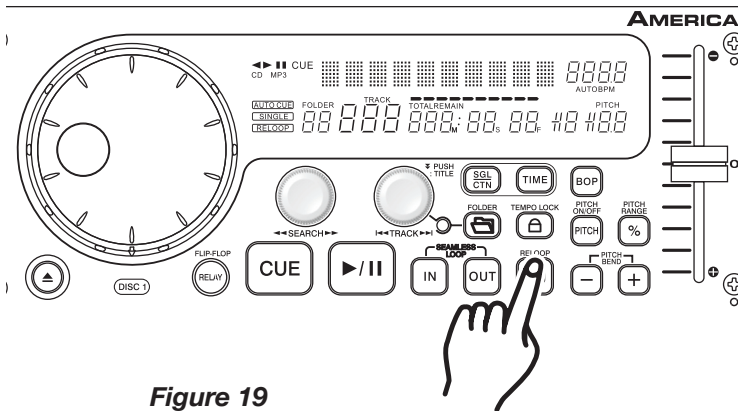

Figure 19
- 3) Press the **OUT BUTTON (16)** to set the ending point for your SEAMLESS LOOP (Figure 19). The **IN BUTTON (17)** and **OUT BUTTON (16)** L.E.D.s will immediately begin to flash rapidly, indicating the SEAMLESS LOOP mode has been activated.
REPLAY LOOP - The **RELOOP (15)** function allows you to return to your stored loop at any time. The **IN BUTTON (17)** and **OUT BUTTON (16)** L.E.D.s will indicate a loop is stored in memory, and may be played at any time. To replay the loop, press the **RELOOP BUTTON (15)**. The **IN BUTTON (17)** and **OUT BUTTON (16)** L.E.D.s will again begin to flash indicating SEAMLESS LOOP mode has been activated (Figure 19) and your stored loop will immediately begin to play.
Please Note: Only the end point of the loop may be edited. You may make your loop shorter or longer. Before you can edit your seamless loop you obviously must first have created a seamless loop to edit. If you haven't created a SEAMLESS LOOP, follow the instructions in step 9 to create a loop. If a SEAMLESS LOOP has already been created, press the **RELOOP BUTTON (15)** to activate your SEAMLESS LOOP (Figure 19) if it is not already activated. To edit your seamless loop's ending point: